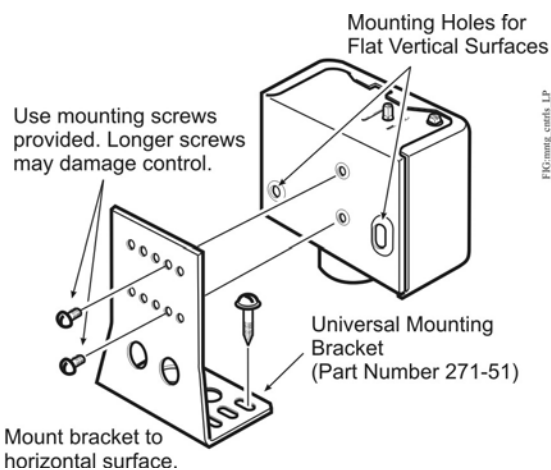

Figure 3: Mounting the P70, P72, and P170 Low Pressure Controls with NEMA 1 Enclosures
- Use two screws or bolts through the two outer holes on the back of the control case when mounting the control directly to a flat vertical surface. See Figure 3.
- Use the two inner holes with the Universal Mounting Bracket (and screws supplied) when mounting the control to a flat horizontal surface. See Figure 3.